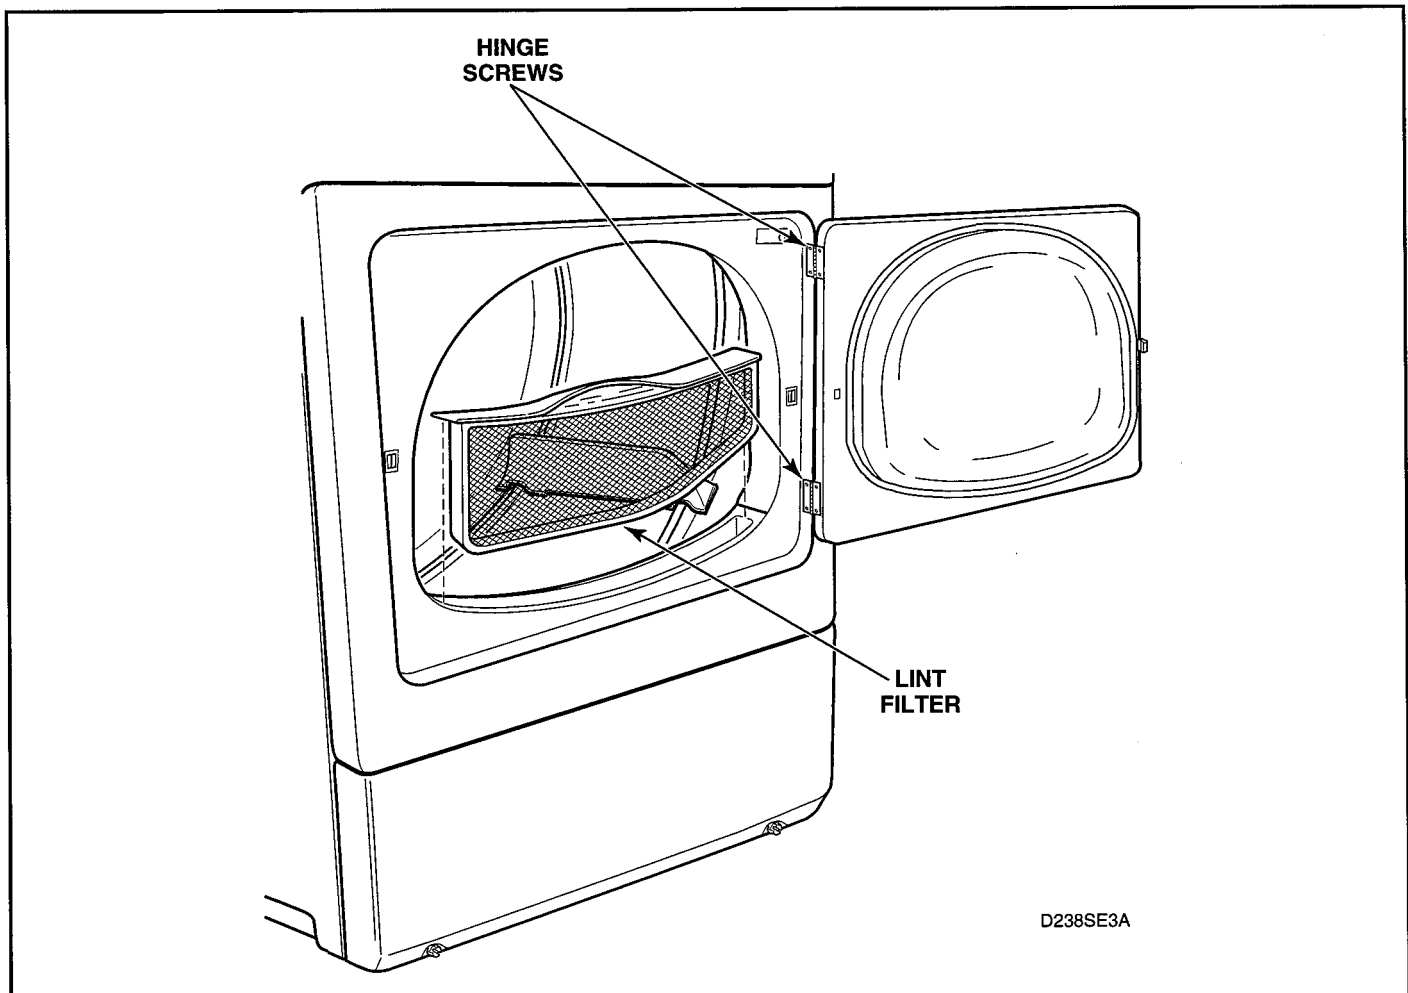

Figure 5-4
### 11. LINT FILTER (Figure 5-4)
- a. Remove four screws holding door assembly to hinges. See figure 5-4.
- b. Remove screws holding loading door to hinges. See figure 5-4.